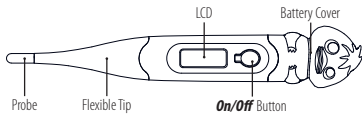

Figure 1: Digital thermometer components
- Press the *On/Off* Button next to LCD display in Figure 1. A tone will sound as the screen shows **188.8°C**, followed by last recorded temperature. After showing the self-test temperature, the thermometer is now in the testing mode.